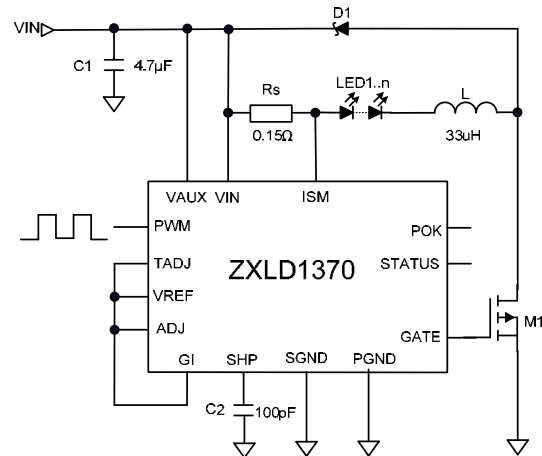

Figure 13: Buck configuration
a) Buck mode – the most simple buck circuit is shown in Figure 13
A basic ZXLD1370 application circuit is shown in Figure 13 and 15.